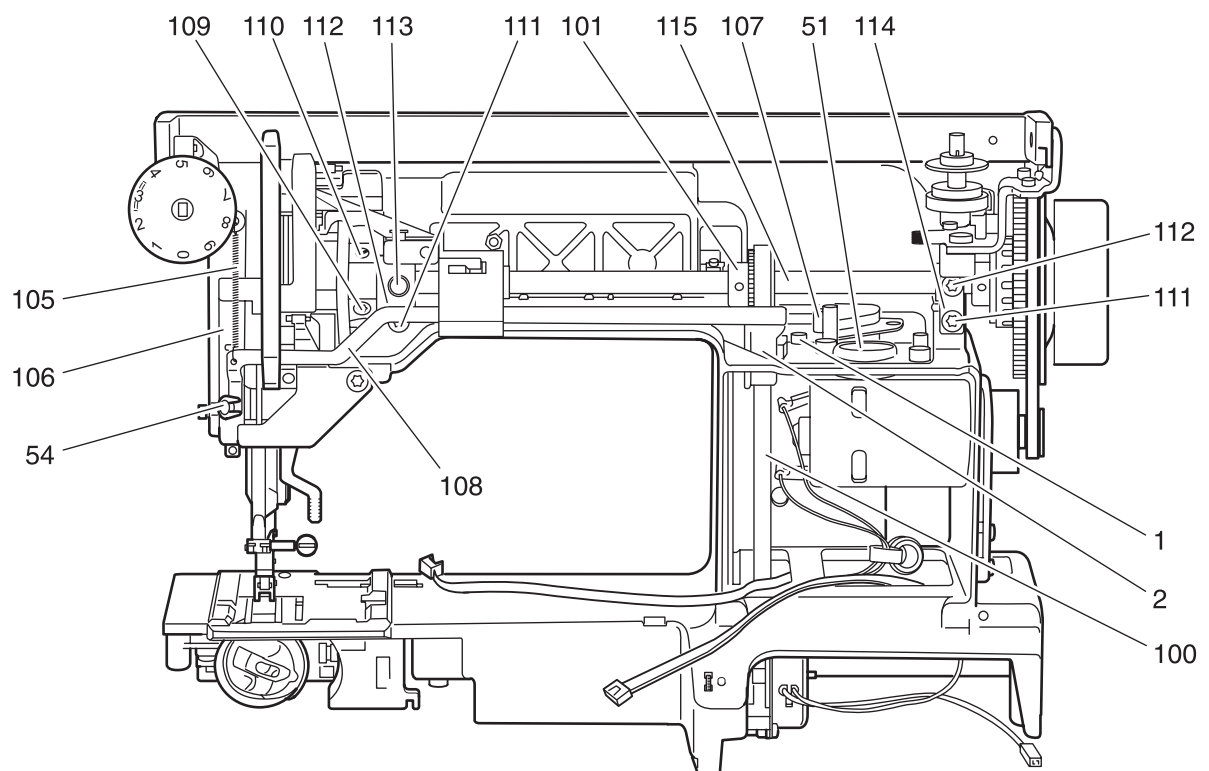

Fig. 67
- Disconnect tension spring 105 on needle bar frame 106 (fig. 67).
- Pull flat-toothed belt 100, which is in the inner housing, upwards (fig. 67).